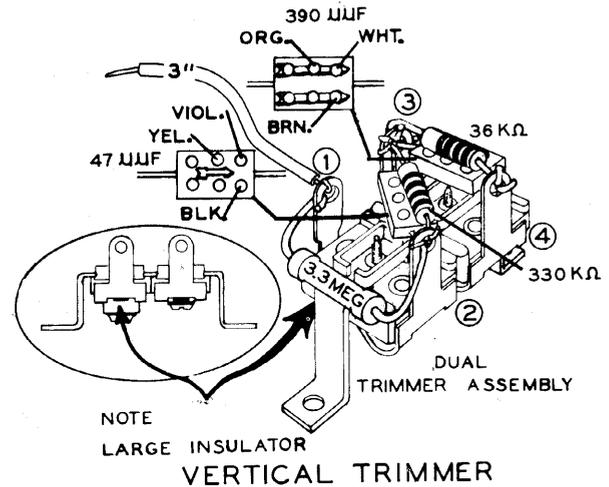

Figure 2
Refer to Figure 2 for the following steps.
- () R4. Select one of the dual trimmers (#31-18) and connect a 3.3 megohm 5% resistor between lug 1 (NS) and lug 2 (NS). Keep the leads of the trimmer components as short as possible and place them as shown in Figure 2.